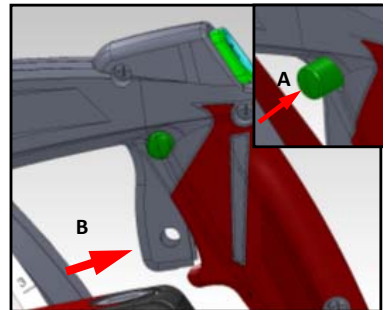

Fig.17
Press the stop button (A) first and pull the trigger (B) at the same time to start rotating. To stop rotating, release trigger. Fig.17